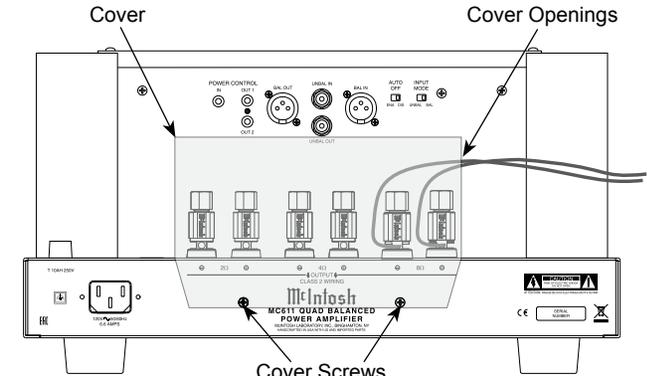

Figure 6 (Outside USA and Canada)
- Locate the Terminal Connections Cover from the inside of the MC611 shipping carton. Insert the just prepared Loudspeaker hookup cables thru the cover opening on the right side. Refer to figure 6.
*Note: The illustration in figure 6 is connections for 8Ω (ohms) Loudspeakers.*
- Attach the Terminal Connections Cover to the MC611 Rear Panel with the previously removed Screws. Refer to figure 6.